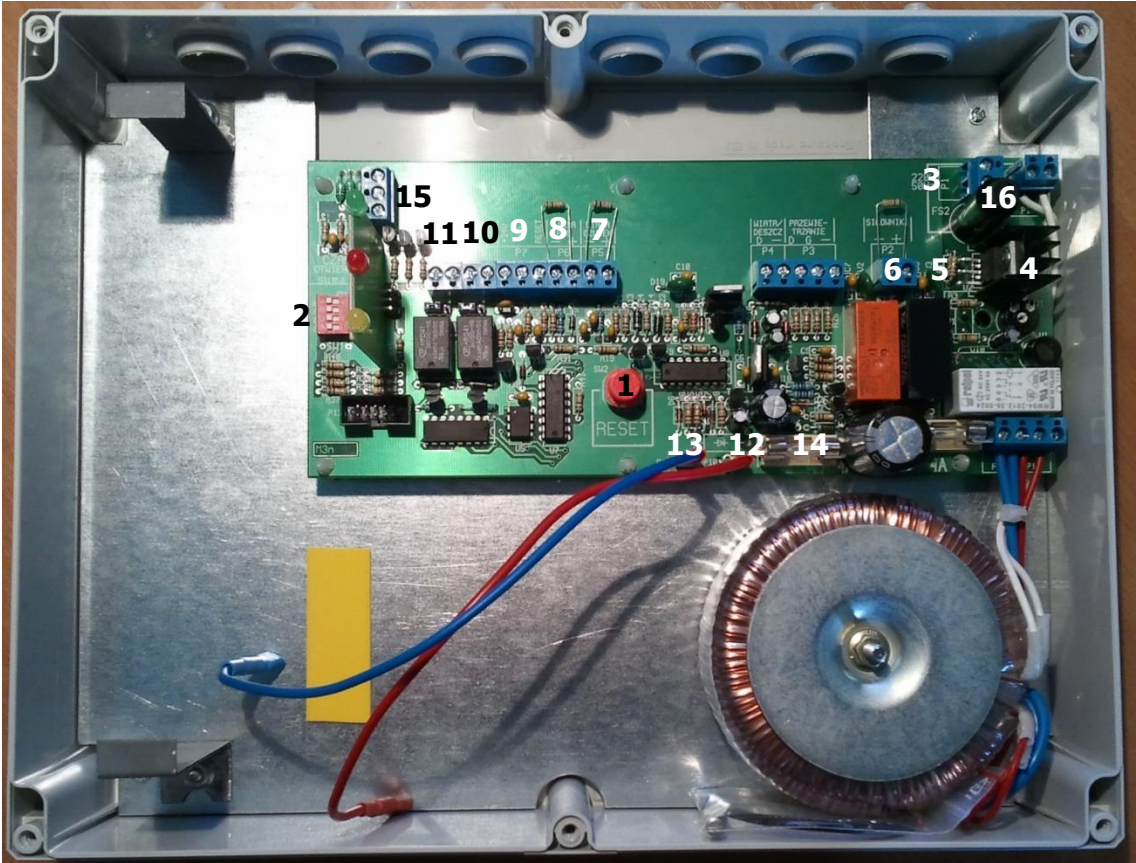

Fig. 2 View of the unit's interior.
Pressing the ↓ button will always cause the smoke exhaust vent to close completely, while the opening time for the ↑ button depends upon the position of the SW1 switch in the unit module (Fig. 2, item 2):